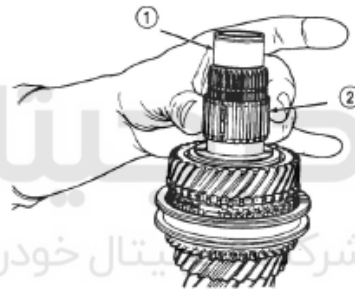

Figure 3-139 Assembly of caged needle bearing
(10) Assemble needle bearing for the fifth gear (Figure 3-139).